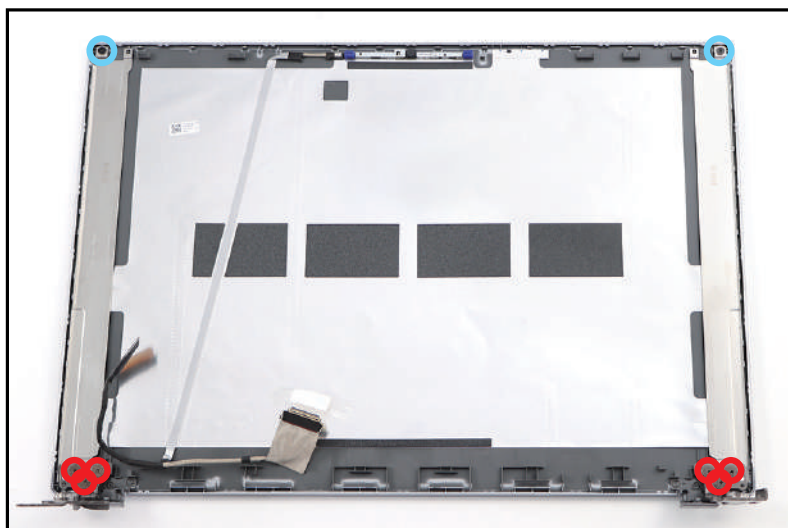

Figure 3-86. LCD Hinges Removal
1. Remove eight (8) screws securing the LCD hinges (Figure 3-86).